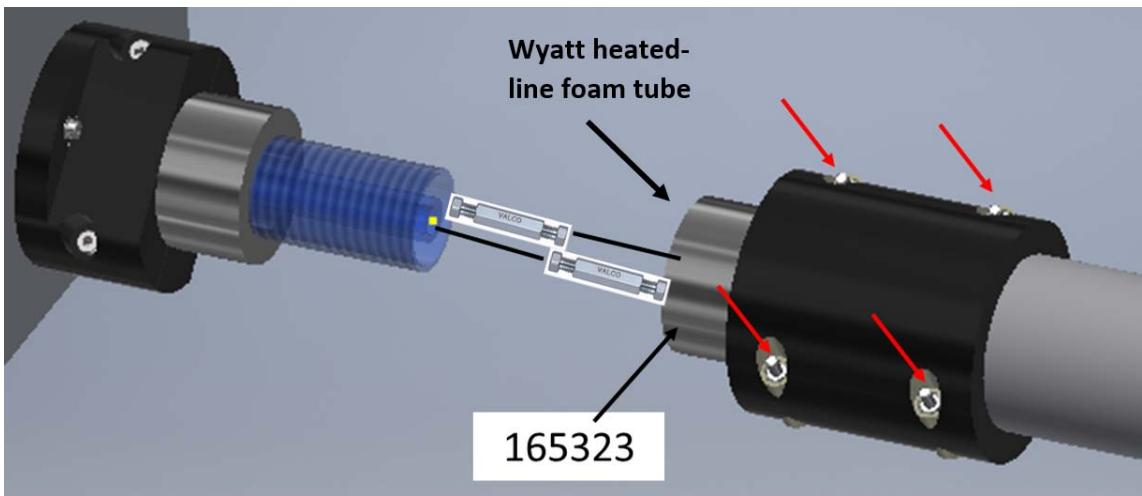

Figure D-19: Four M4 screws to loosen indicated by red arrows
7. Loosen the four M4 screws on the Wyatt heated-line adapter indicated in Figure D-19. This allows the foam tube (P/N 165323) to slide.